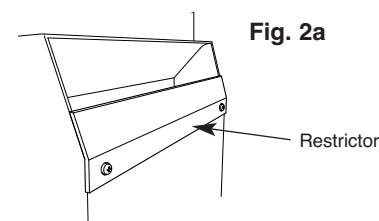

Fig. 2a
- c) **Pre-cast Flue** conforming to BS 1289 Part 1 (It may be necessary to use a surround with a deeper rebate than usual to accommodate a flush fit with certain starter blocks. Check the appliance dimensions against individual applications. Pre-cast flue block systems should comply with BS EN 1806 (clay/ceramic) or BS EN 1858 (concrete). The flue area measurement is taken on the rectangular section above the gather block (length x depth). The cross sectional area on post 1986 systems should not be less than 16500mm sq with a minimum internal dimension 90mm. Gas operatives need to be aware that before 1986 the cross sectional area specification was 13000mm sq with the minimum dimension of 63mm. In the case of the smaller flue the outlet restrictor plate **MUST** be fitted (see Fig. 2a).